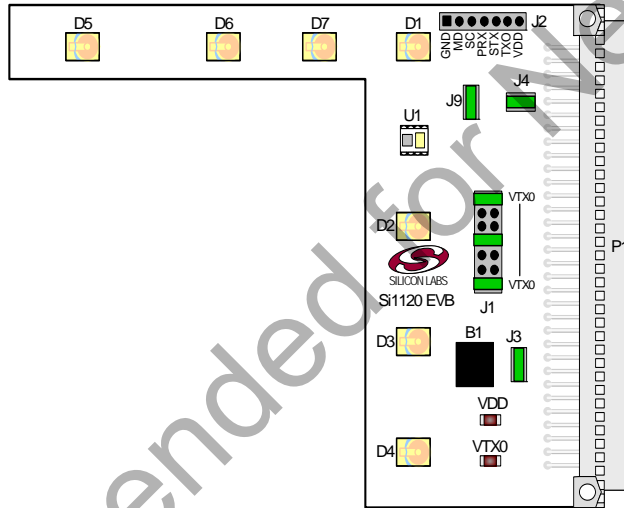
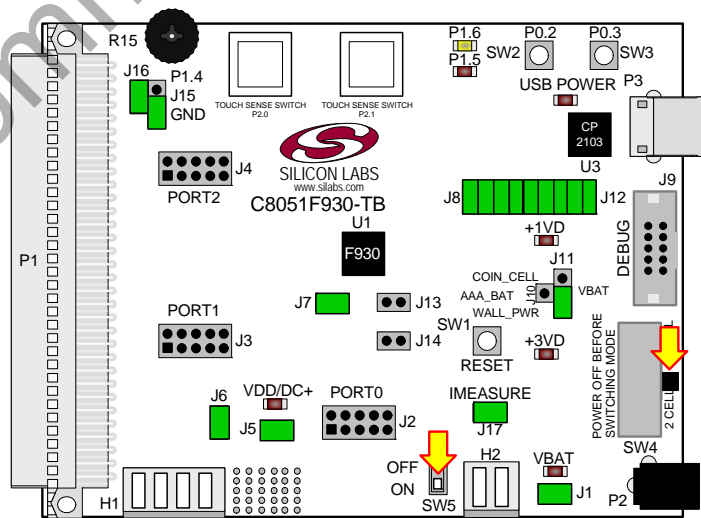
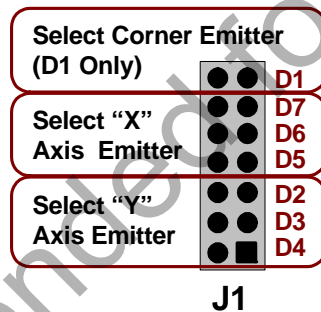

Figure 1. Si1120 Evaluation Board—Shorting Block Settings
Figure 2. C8051F930 Target Board—Shorting Block and Switch Settings
Figure 4. Header J1 Setup
The Si1120EK is intended as an evaluation and development platform for the Si1120 infrared proximity and ambient light sensor. Two PCBs are included in the kit: the Si1120 EVB shown in Figure 1, and the C8051F930-TB shown in Figure 2. Although the C8051F930-TB is part of the development kit, the documentation in this user's guide will focus on the Si1120 EVB and the example firmware. For more specific information on the C8051F930 TB, refer to the "C8051F930-DK User's Guide". The main components of the Si1120 EVB are the Si1120 sensor (U1), the infrared emitters (D1 through D7), and header J1 which allows for selection between different infrared emitters on the board. On this PCB, the infrared emitters used are OSRAM part number SFH 4650-Z. These emitters have a power rating of 45 mW and a half-angle of 20 degrees. Other emitters with different characteristics may also be used, depending on the specific application requirements.
1. Ensure the shorting blocks are configured for basic operation on both boards, as shown in Figure 1 and Figure 2.
To function properly with the demonstration firmware, the shorting blocks on header J1 should be set as indicated in Figure 1. However, these can be set differently, according to the application. The corner emitter is fixed at D1, but a shorting block point is provided for debug purposes. The “X” and “Y” axis emitters can each be moved between three different positions on the board, as shown in Figure 4.
2. Linearized distance measurements for each IR channel. The raw proximity values output from the Si1120 will be exponentially larger the closer an object is to the sensor. The channels labeled "Radius 1", "Radius 2" and "Radius 3" are linearizations of the raw data output from the sensor when illuminating the three different selected emitters. To use the example effectively, the shorting blocks on header J1 should be set according to the diagram in Figure 1. This will select D1, D4, and D7 as the three reference emitters.